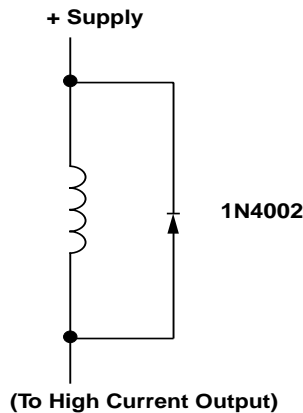

Figure 3-1 — Inductive Load Protection Circuitry
- When inductive loads are used, protection diodes or other schemes must be used. Refer to **Figure 3-1**.